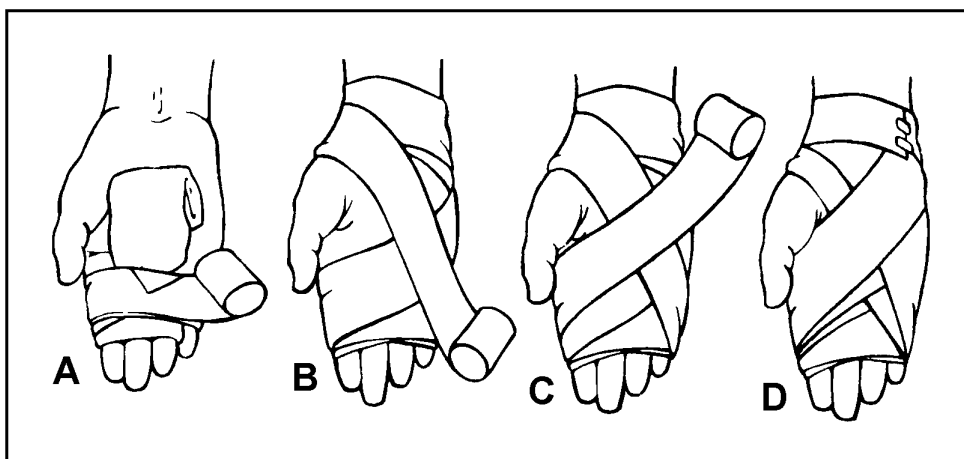

Figure 3-22
- d. Use a figure eight wrap to support or limit joint movement at the hand, elbow, knee, ankle, or foot. (See Figure 3-22.)